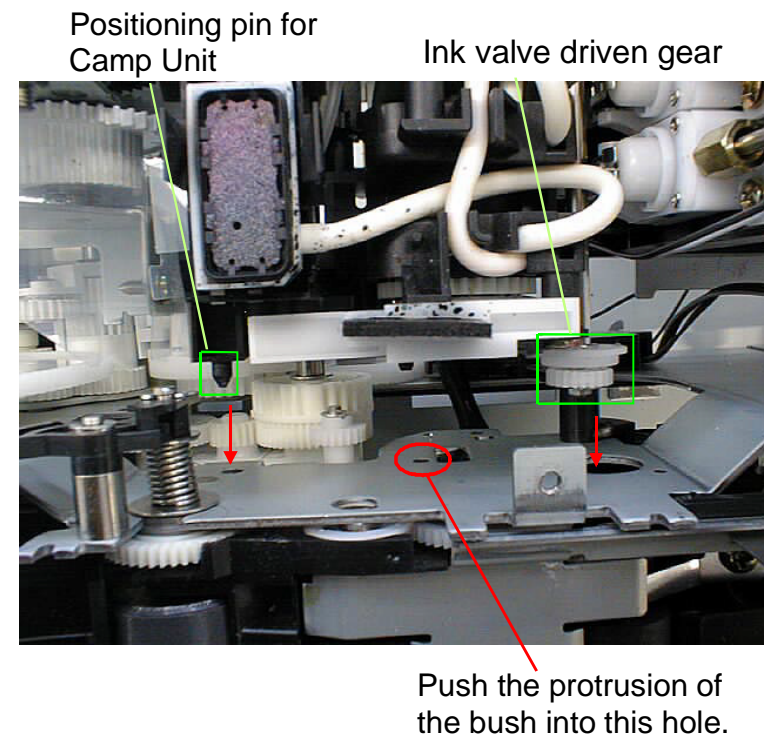

Figure 4-50. Check points when re-installing pump unit
- **When re-installing "Pump Unit", insert the positioning pin for the cap unit and ink valve driven gear to each corresponding holes. (See Figure4-50)**
- **There is a bush to fix the ink valve driven gear to "Frame, Main, Right". Therefore, when installing, make sure to push the protrusion of the bush to the hole on the "Frame, Main, Right". (See Figure 4-50)**